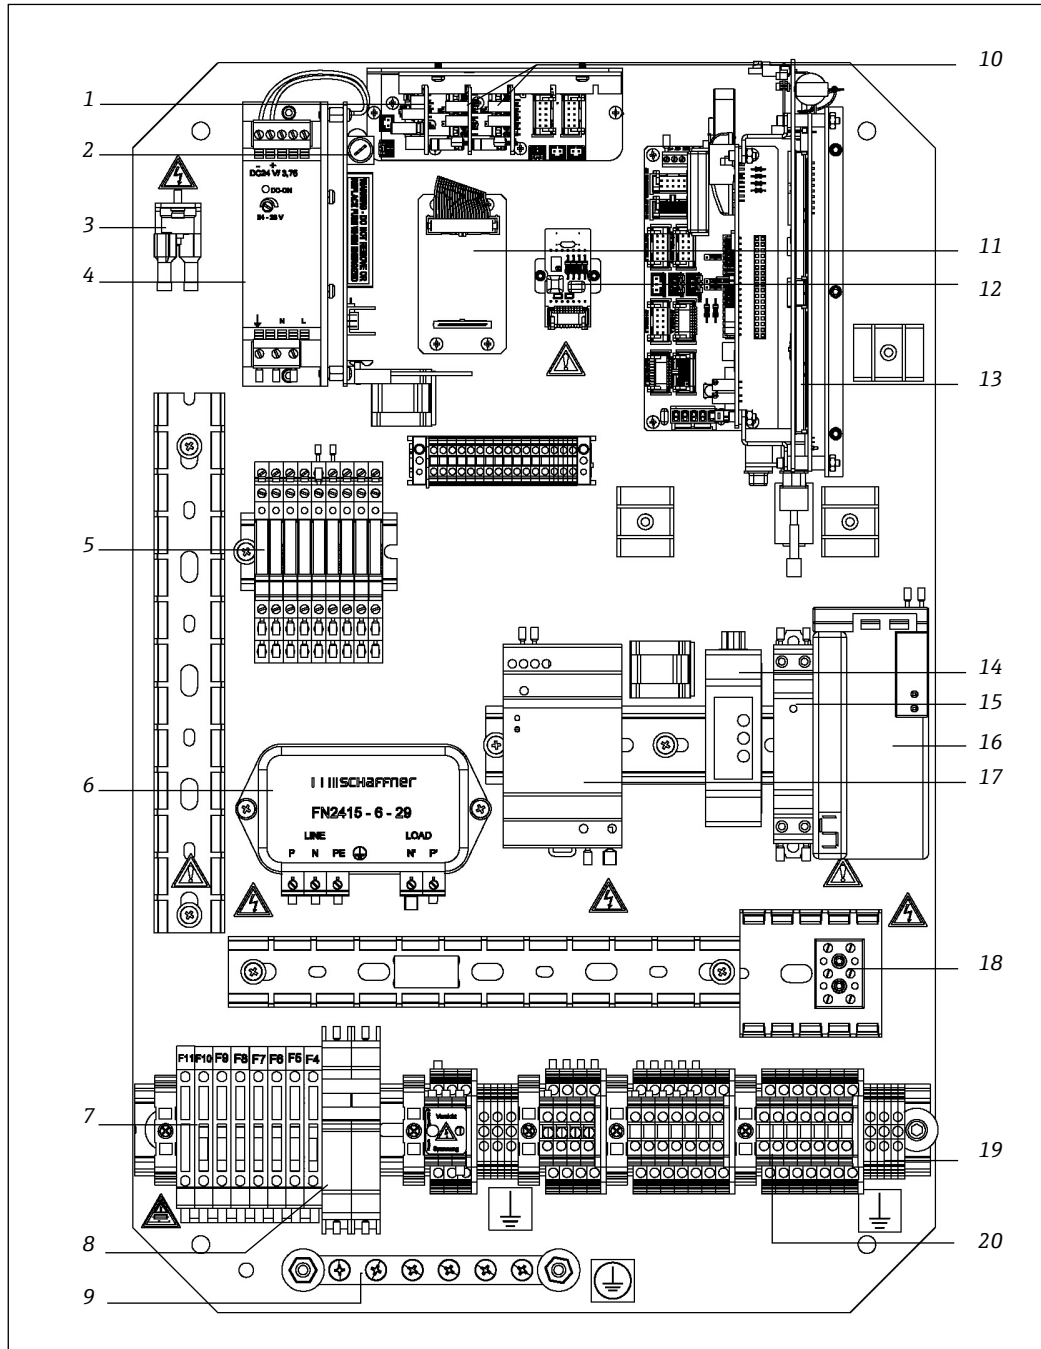

Figure 6. Components in SS2100i-2 electronics enclosure
- ▶ See *Figure 6. Components in SS2100i-2 electronics enclosure* →  for locating fuses. If you need to replace a fuse, use only the same type and rating of fuse as the original. The types and ratings are listed in the following tables.